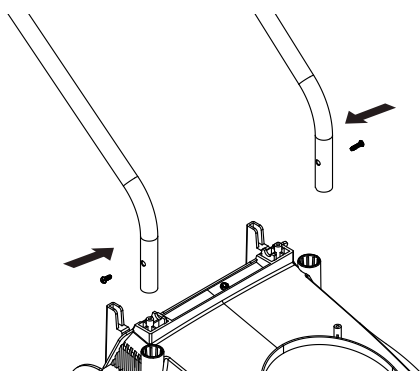

Fig. 1a
1. Insert both lower handles into the holes in the deck and secure with the supplied screws, ensuring the fixing holes on the deck line up with the fixing holes of the lower handles (Fig. 1a).